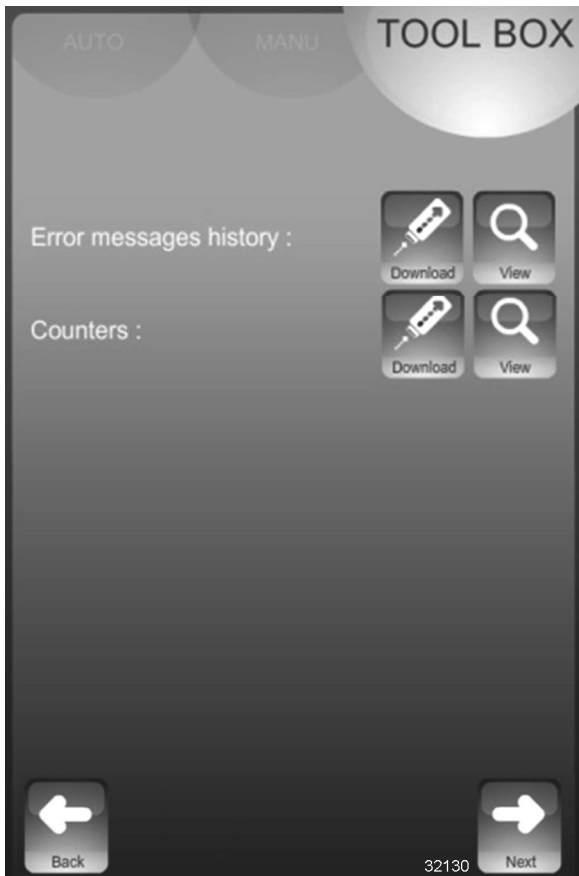

Fig. 148
1. Select Error message history **View** icon (Fig. 148) to view error history. Select **Download** icon to download an Excel-compatible spreadsheet to a USB drive.
2. Select Counters **View** icon (Fig. 148) to view operational counter information. Select **Download** icon to download an Excel-compatible spreadsheet to a USB drive.